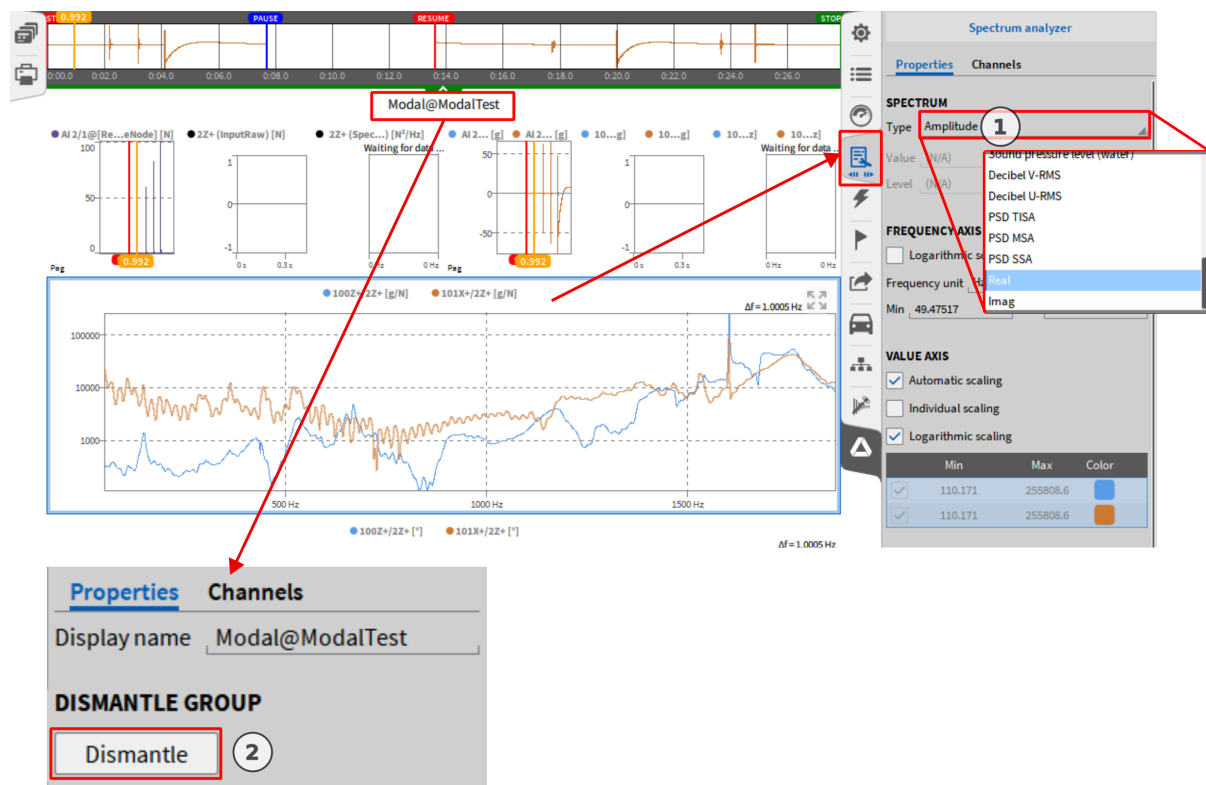

Fig. 3.20: Instrument properties and dismantling template
A standard measurement procedure proceeds as follows: The trigger button ② is active by default. If not, set the button to active and excite the test object. As a result, the bar indicator ⑦ should be filled, in this case, three times with a green color. To repeat an excitation event and discard the last one, the (Reject last) button ③ can be used. To switch to previous excitation groups, the desired excitation group ⑥ can be clicked to set it as the active group and display its data. To further analyze the data, a single FRF can be displayed in the amplitude response ⑭ by clicking ④. Furthermore, the MIF can be added to the coherence spectrum ⑯ by clicking ⑤. For more details about the MIF calculation go to formula 2.8 and for the Coherence calculation, to formula 2.6 and formula 2.7. Each instrument can be modified to change the displayed data, for example, the amplitude response can be set to display the real or imaginary part instead. Just click on the instrument to be edited and click the instrument properties tab seen in the next Fig. 3.20 ① to choose the desired data. For more information on the spectrum analyzer, see the OXYGEN manual.